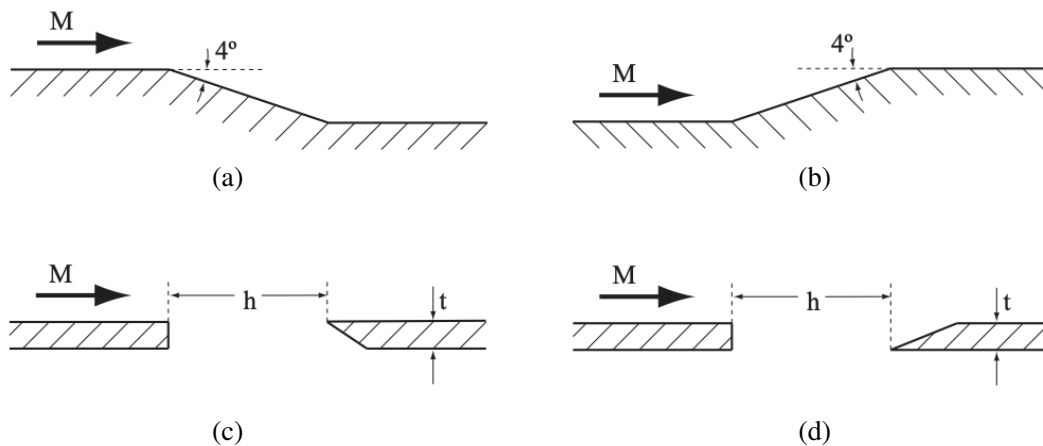

Fig. 3
5 (a) Air flows past a wall at a Mach number $M = 1.25$, and encounters a defect. This may be either a 4° clockwise turn followed by a return to the streamwise direction (as sketched in Fig. 3(a)), or a 4° anticlockwise turn followed by a return to the streamwise direction (as sketched in Fig. 3(b)).
- (i) Two possible detail geometries for the slot are shown in Figs. 3(c) and (d). Draw carefully labelled sketches of the principal flow features in each case. [30%]
- (ii) Comment on the potential utility of the design in Fig. 3(d). [10%]